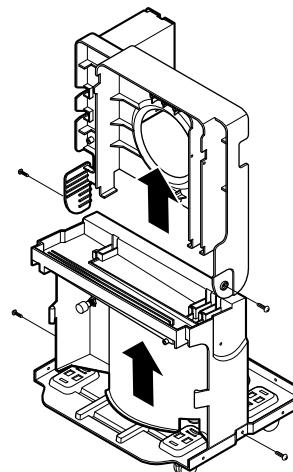

Figure 23
5. Unfasten 2 screws that secure the drain pan to base pan. (See Figure 23)
6. Pull the drain pan backward then take it up from the base. (See Figure 23)